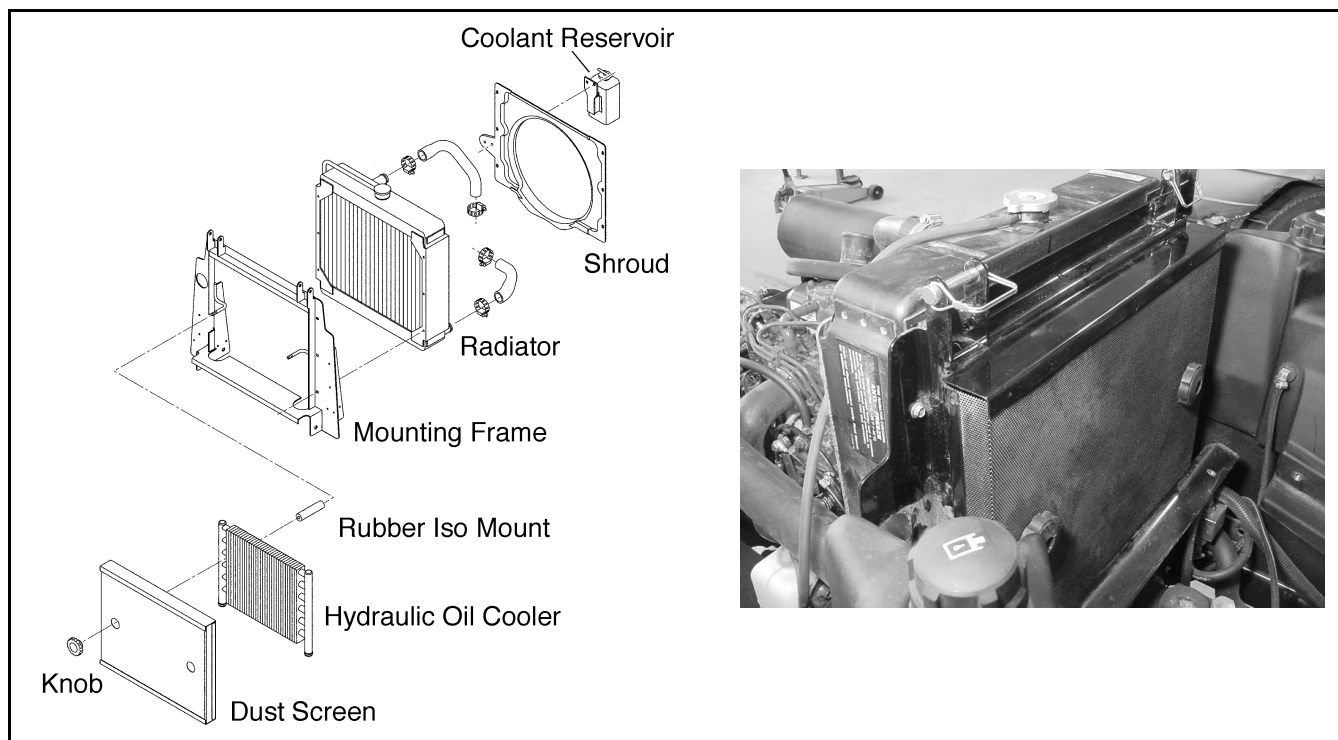

Figure 3D-6. Radiator, Hydraulic Oil Cooler, and Dust Screen
7. Remove the dust screen. Using low-pressure compressed air blow dust and debris from the radiator core (Figure 3D-6).